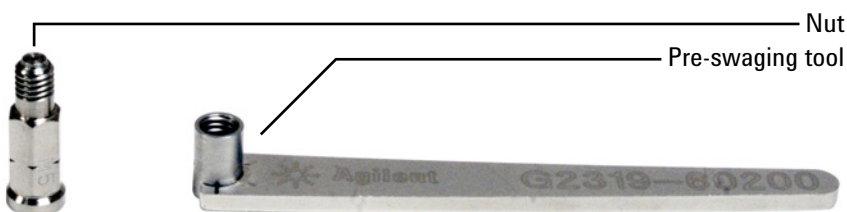

Figure 15 Volatiles interface nut and pre-swaging tool (G4556-67018)
- a Pass the transfer line tubing end through the SilTite ferrule leaving approximately 1 cm of tubing protruding beyond the ferrule. Thread the pre-swaging tool onto the transfer line nut (Figure 15) with the tubing protruding through the tool.